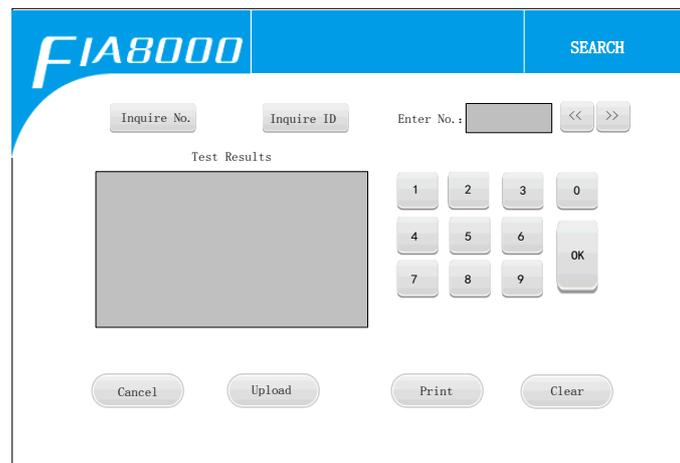

Fig.8 Search display interface
In the main interface, click the "Search" icon and enter the search interface (see Fig.8). Searching has two ways: No. and ID number. Number query is system default. But you can click on "Inquire ID" and switch to the "Inquire ID" interface.
1. Touch "Search" icon to enter search interface (see Fig.8);